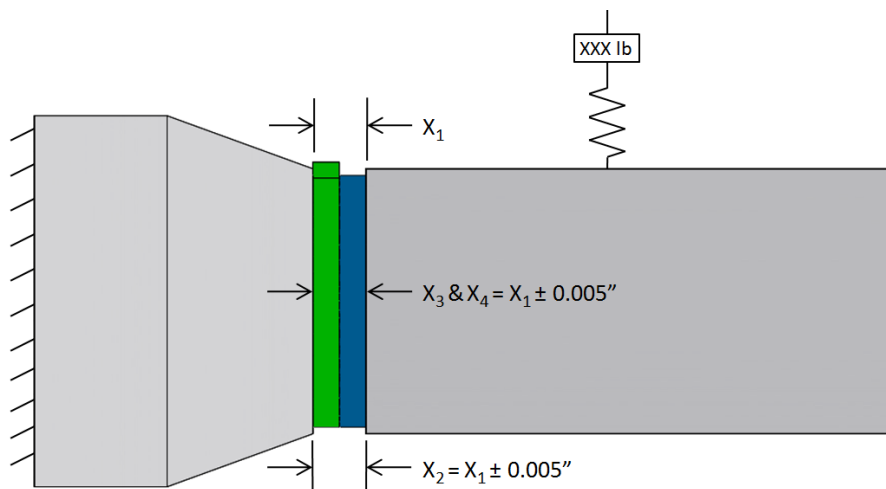

Figure 42: Verify parallelism of compressed Lightband.
12.1.10	Slowly compress the Lightband. See Section 14 if using the Lightband Compression Tool (LCT). Continually monitor the load cell. It shall remain within 10 lb of the step 12.1.7 reading. When fully compressed the distance between Lightband flanges shall conform to Step 7.1.10. Also verify that the flange distance at the top, bottom, left and right of the Lightband are within 0.005 in of one another. See Figure 42. An improperly aligned SV may move up or down, left or right, pitch, roll and yaw during the stow process, requiring additional power that the Lightband motors cannot generate. Proper alignment is essential.